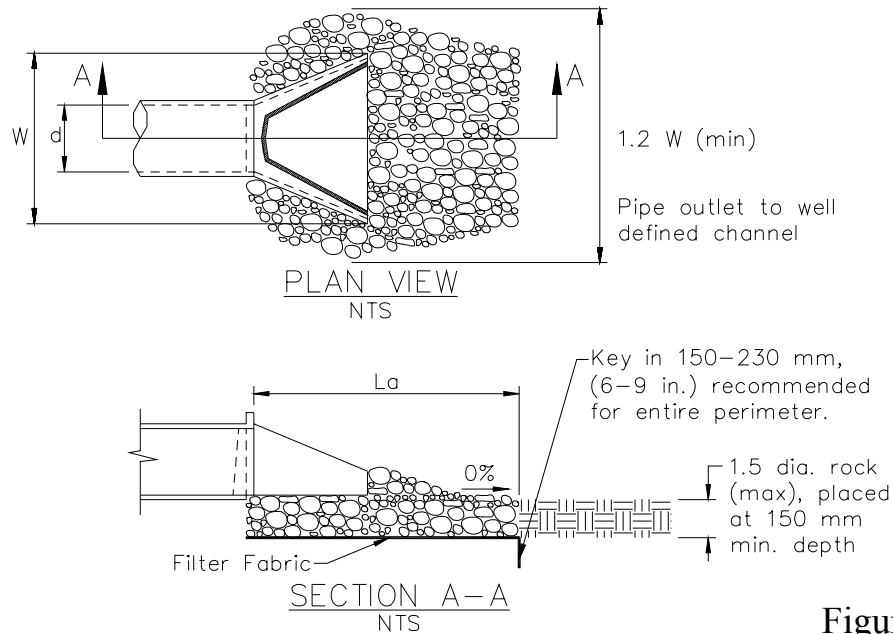

Figure 1
- There are many types of energy dissipaters; rock, which is represented in Figure 1, is one common type. However, note that this is only one example and the District Hydraulics Engineer must be contacted for region-specific requirements.